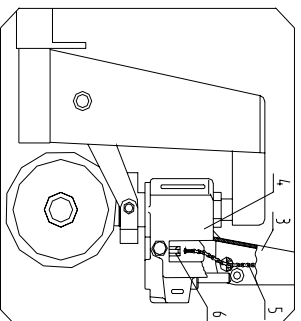
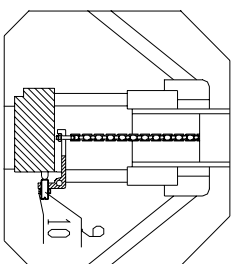

Fig.2
Fig. 5
2.1.3 Turn the pin roll 2, and make sure that the big hole axis of pin roll is just in the vertically. Put the chain 5 of hand grip get across the middle hole of pin roll 2. See fig 2.
See fig 2 and fig 5.
2.1.8 The screw 9 in fig 5 is used to adjust the truck situation. When the truck body drops immediately after it is lifted, you should turn the screw 9 a little counter